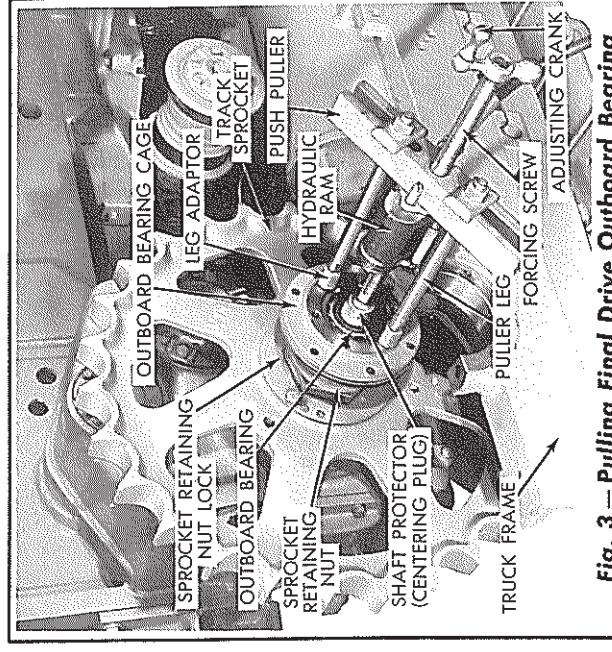

Fig. 3 — Pulling Final Drive Outboard Bearing from Track Sprocket Shaft
3. Remove the track sprocket guard, truck frame pivot shaft caps, and the two (2) capscrews attaching the truck frame outboard bearing clamping cap. Remove the three (3) remaining capscrews attaching the final drive outboard bearing cage to the truck frame. Remove the two (2) capscrews attaching the equalizing spring seat to the truck frame.
6. Using puller tools similar to the ones shown in Fig. 3, pull the final drive outboard bearing cage and bearing from the track sprocket shaft. Use care in handling and prevent damage to the oil seal rings.